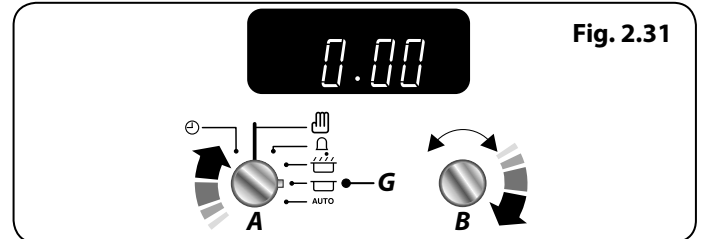

Fig. 2.31
2. Turn the **Timer (A)** knob to the **Stop Time (G)** setting (**Fig. 2.31**). The display will show the current time of day plus the 'cook time' you just set.
3. Continue to turn the **Adjusting (B)** knob to the amount of time required e.g. 1 minute (**Fig. 2.31**).